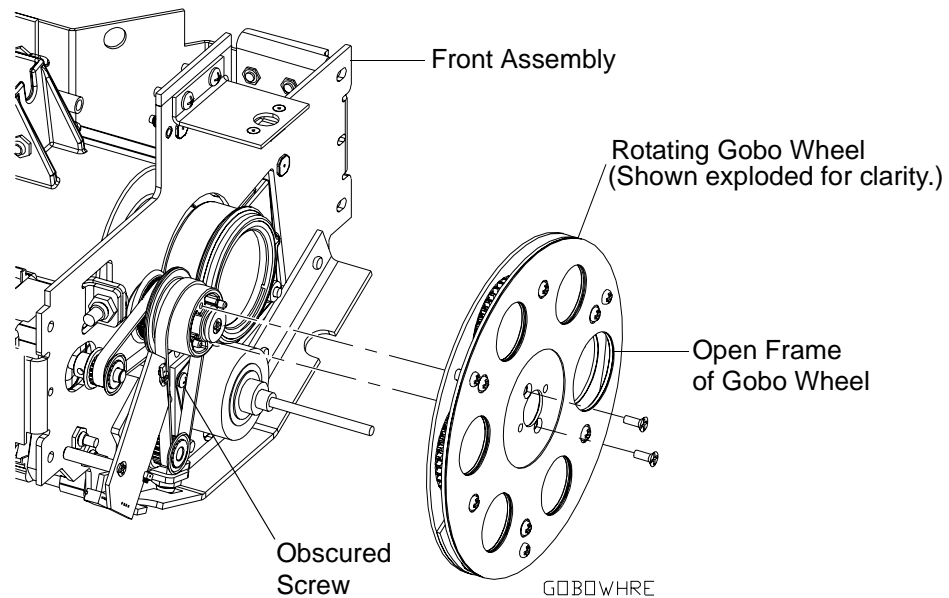

Figure 2-11: Accessing Edge Motor Assembly Attaching Hardware
- Step 4. The rotating gobo wheel obscures one of the screws securing the edge motor assembly to the front assembly. At rotating gobo wheel, turn gobo wheel until the open frame is over head of obscured screw. **Figure 2-11.**